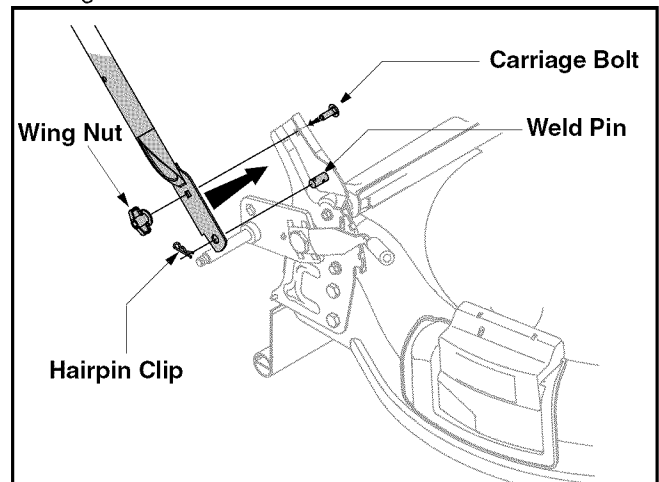

Figure 3
- Remove hairpin clip from the outer hole of the weld pin on each handle brackets. Using a pair of pliers, squeeze one leg of the lower handle against the handle bracket. Insert the hairpin clip into the inner hole on the weld pin. Repeat on the other side. See Figure 3.
- After moving the hairpin clip, insert the carriage bolt, from the hardware pack, in the upper hole on the handle mounting bracket and secure with plastic wing nut from the hardware pack. See Figure 3. Repeat on the other side.